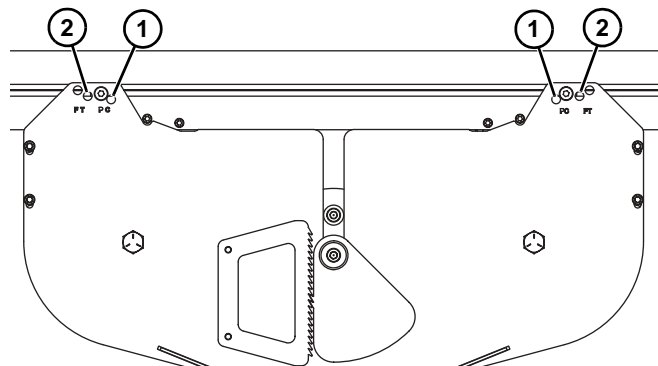

Figure 66
- For standard belt use these holes (**Figure 66, item 1**).
- For friction insert belt use these holes (**Figure 66, item 2**).